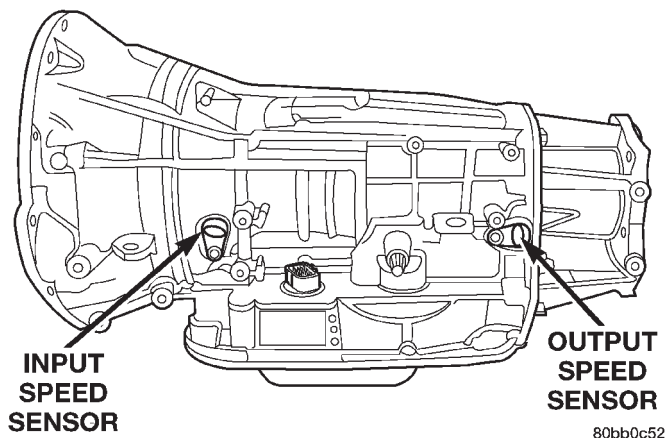

Fig. 13 Input Speed Sensor
- (1) Raise vehicle.
- (2) Place a suitable fluid catch pan under the transmission.
- (3) Remove the wiring connector from the input speed sensor (Fig. 13).
- (4) Remove the bolt holding the input speed sensor to the transmission case.
- (5) Remove the input speed sensor from the transmission case.